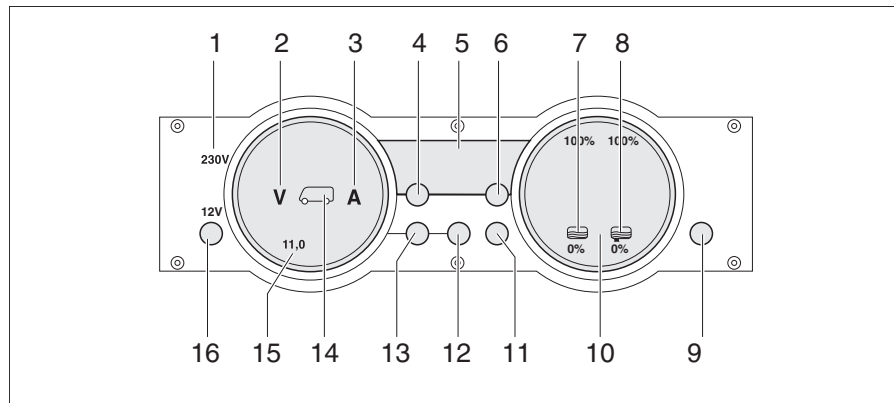

Fig. 260 Panel MP 20-S
The 230 V indicator lamp (Fig. 260,1) lights up whenever line voltage is available at the transformer/rectifier input.
The 12 V main switch (Fig. 260,16) switches the panel and the 12 V power supply of the living area on and off.
- Briefly press the "12 V" button (Fig. 260,16). The 12 V living area power supply is switched on. The "12 V" indicator lights up.
- ▷ If, after switching on, the "11.0" LED of the volt indicator and the "V" volt symbol (Fig. 260,2) in the batteries gauge (Fig. 260,15) flash, the voltage of the living area battery is too low. Charge battery.
- ▷ If, after switching on, the "12 V" indicator, the symbol for the living area battery (Fig. 260,14) and the "V" volt symbol (Fig. 260,2) flash three times, battery separation is activated. Deactivate battery separation.
- Briefly press the "12 V" button (Fig. 260,16). The 12 V living area power supply is switched off. The "12 V" indicator goes out.
- Press button for living area battery (Fig. 260,12) and hold it down for approx. 10 seconds. The "V" volt (Fig. 260,2) and "A" ampere (Fig. 260,3) symbols flash three times. The living area battery is disconnected from the 12 V power supply.
- Press the "12 V" button (Fig. 260,16) and hold it down for approx. 5 seconds. The "V" volt symbol (Fig. 260,2) flashes three times. The living area battery is connected to the 12 V power supply. The indicator lights up after approx. 2 seconds.
- Press the living area battery  button (Fig. 260,12). The "V" volt symbol (Fig. 260,2) lights up. Depending on whether the battery is being charged or discharged, the "A" ampere symbol lights up white or red respectively. The battery voltage and current of the living area battery are displayed using the LEDs in the gauge.
- Press the starter battery  button (Fig. 260,13). The "V" volt symbol (Fig. 260,2) lights up. The battery voltage of the starter battery is displayed using the LEDs in the gauge.
- Press the Tanks  button (Fig. 260,11). The water tank  (Fig. 260,7) and waste water tank  (Fig. 260,8) symbols light up. The fill level of the water tank (left-hand scale) and the waste water tank (right-hand scale) are indicated using the LEDs in the gauge.
The "V" volt symbol (Fig. 260,2) and the "11.0" LED flash as soon as the battery voltage falls below 11 V (measured during operation) and there is the threat of a total discharge.
The water tank symbol  (Fig. 260,7) or waste water tank symbol  (Fig. 260,8) flashes when the water tank is empty or the waste water tank is full.